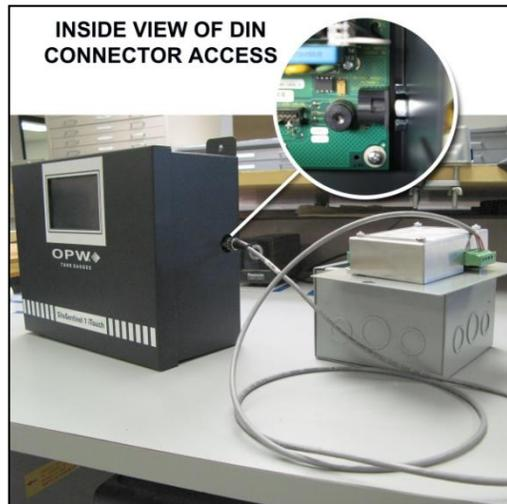

Figure 23-2 DIN Connector Access
5. See Figure 23-2. Attach the DIN connector on the 20-1582 cable to the controller